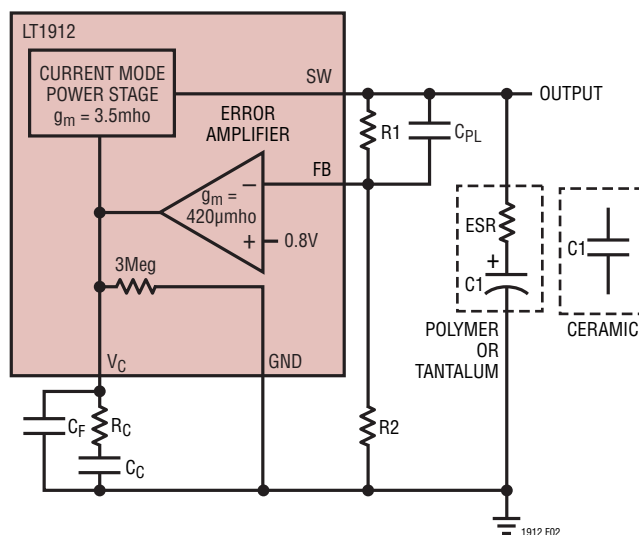
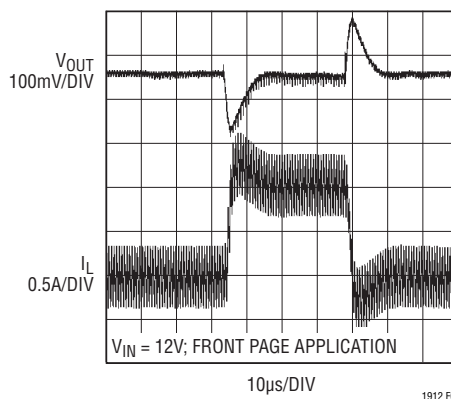

Figure 2. Model for Loop Response
Figure 3. Transient Load Response of the LT1912 Front Page Application as the Load Current is Stepped from 500mA to 1500mA.  $V_{OUT} = 3.3\text{V}$
The LT1912 uses current mode control to regulate the output. This simplifies loop compensation. In particular, the LT1912 does not require the ESR of the output capacitor for stability, so you are free to use ceramic capacitors to achieve low output ripple and small circuit size. Frequency compensation is provided by the components tied to the VC pin, as shown in Figure 2. Generally a capacitor (CC) and a resistor (RC) in series to ground are used. In addition, there may be lower value capacitor in parallel. This capacitor (CF) is not part of the loop compensation but is used to filter noise at the switching frequency, and is required only if a phase-lead capacitor is used or if the output capacitor has high ESR.
and in particular the type of output capacitor. A practical approach is to start with one of the circuits in this data sheet that is similar to your application and tune the compensation network to optimize the performance. Stability should then be checked across all operating conditions, including load current, input voltage and temperature. The LT1375 data sheet contains a more thorough discussion of loop compensation and describes how to test the stability using a transient load. Figure 2 shows an equivalent circuit for the LT1912 control loop. The error amplifier is a transconductance amplifier with finite output impedance. The power section, consisting of the modulator, power switch and inductor, is modeled as a transconductance amplifier generating an output current proportional to the voltage at the  $V_C$  pin. Note that the output capacitor integrates this current, and that the capacitor on the  $V_C$  pin ( $C_C$ ) integrates the error amplifier output current, resulting in two poles in the loop. In most cases a zero is required and comes from either the output capacitor ESR or from a resistor  $R_C$  in series with  $C_C$ . This simple model works well as long as the value of the inductor is not too high and the loop crossover frequency is much lower than the switching frequency. A phase lead capacitor ( $C_{PL}$ ) across the feedback divider may improve the transient response. Figure 3 shows the transient response when the load current is stepped from 500mA to 1500mA and back to 500mA.
Capacitor  $C_3$  and the internal boost Schottky diode (see the Block Diagram) are used to generate a boost voltage that is higher than the input voltage. In most cases a  $0.22\mu\text{F}$  capacitor will work well. Figure 2 shows three ways to arrange the boost circuit. The BOOST pin must be more than 2.3V above the SW pin for best efficiency. For outputs of 3V and above, the standard circuit (Figure 4a) is best. For outputs between 2.8V and 3V, use a  $1\mu\text{F}$  boost capacitor. A 2.5V output presents a special case because it is marginally adequate to support the boosted drive stage while using the internal boost diode. For reliable BOOST pin operation with 2.5V outputs use a good external Schottky diode (such as the ON Semi MBR0540), and a  $1\mu\text{F}$  boost capacitor (see Figure 4b). For lower output voltages the boost diode can be tied to the input (Figure 4c), or to another supply greater than 2.8V. Tying BD to  $V_{IN}$  reduces